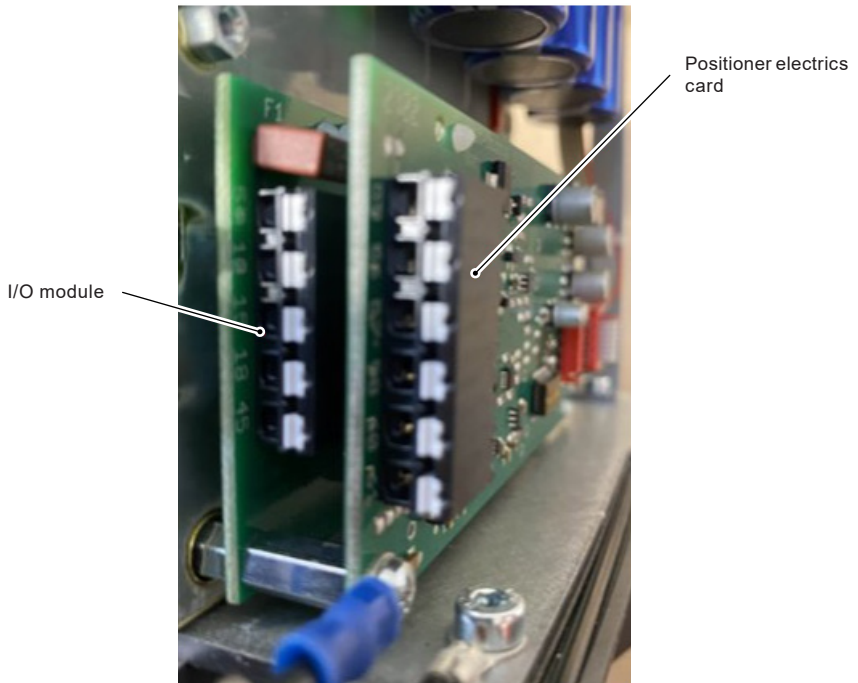

Fig. 5 PEL Orientation
- Carefully align the Positioner Card Board on top of the spacers as indicated in Figure 5 carefully press firmly down until you feel the board clip onto the plastic barbed spacers.
- Connect wiring harness as indicated in Figure 5 (note: there is a locating nose on the wiring harness to ensure correct orientation, this is on the same side as the red wire).